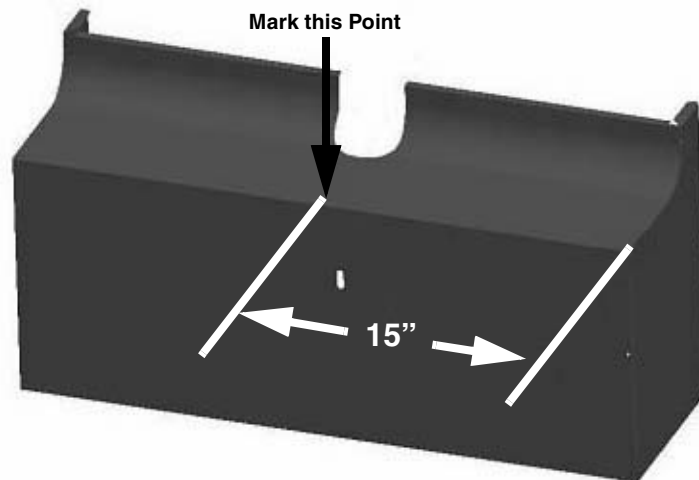

FIGURE 1
1. With the merchandiser removed, measure 15" from either side and mark this with marker, pencil, pen etc. This is center of the merchandiser see FIGURE 1. If the merchandiser in this kit already has the holes punched, skip to Step 5.